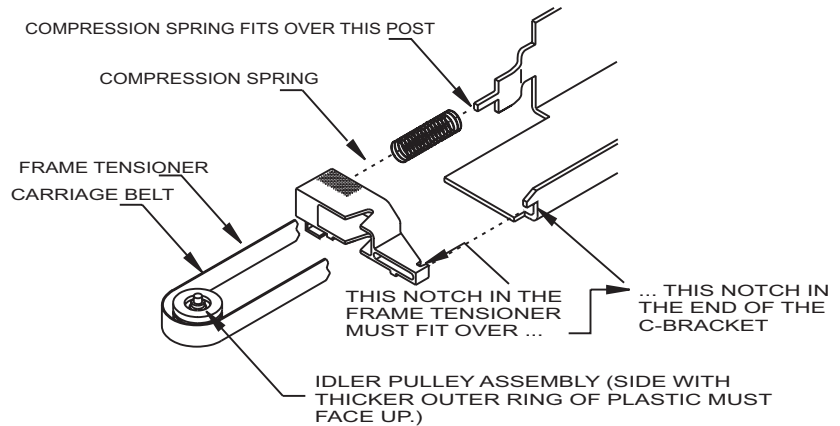

Figure 5-11. Frame Tensioner.
8. Push the Carriage Belt through the Frame Tensioner enough to remove the Idler Pulley Assembly from the Frame Tensioner, and then set aside the Idler Pulley Assembly and the Frame Tensioner. See Figure 5-11.
12. Holding the Carriage Belt and Frame Tensioner, insert the Idler Pulley Assembly into the loop of the belt. Make sure that the side of the Idler Pulley Assembly with the thicker outer ring of plastic is facing up. See Figure 5-11.